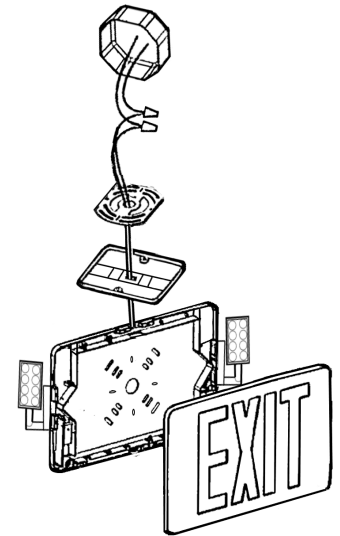
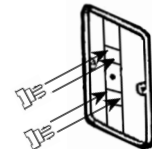

Figure 3 - Top Mount
Figure 4 - Insert plastic clips to plastic bracket
- Insert the plastic clips to the plastic bracket as seen in "Figure 4"
- Run the wires through the mounting bracket as seen in "Figure 3 - Wall Mount."
NOTE: Figure 3 and Figure 4 shown as single face install, for double face: install additional EXIT faceplate.